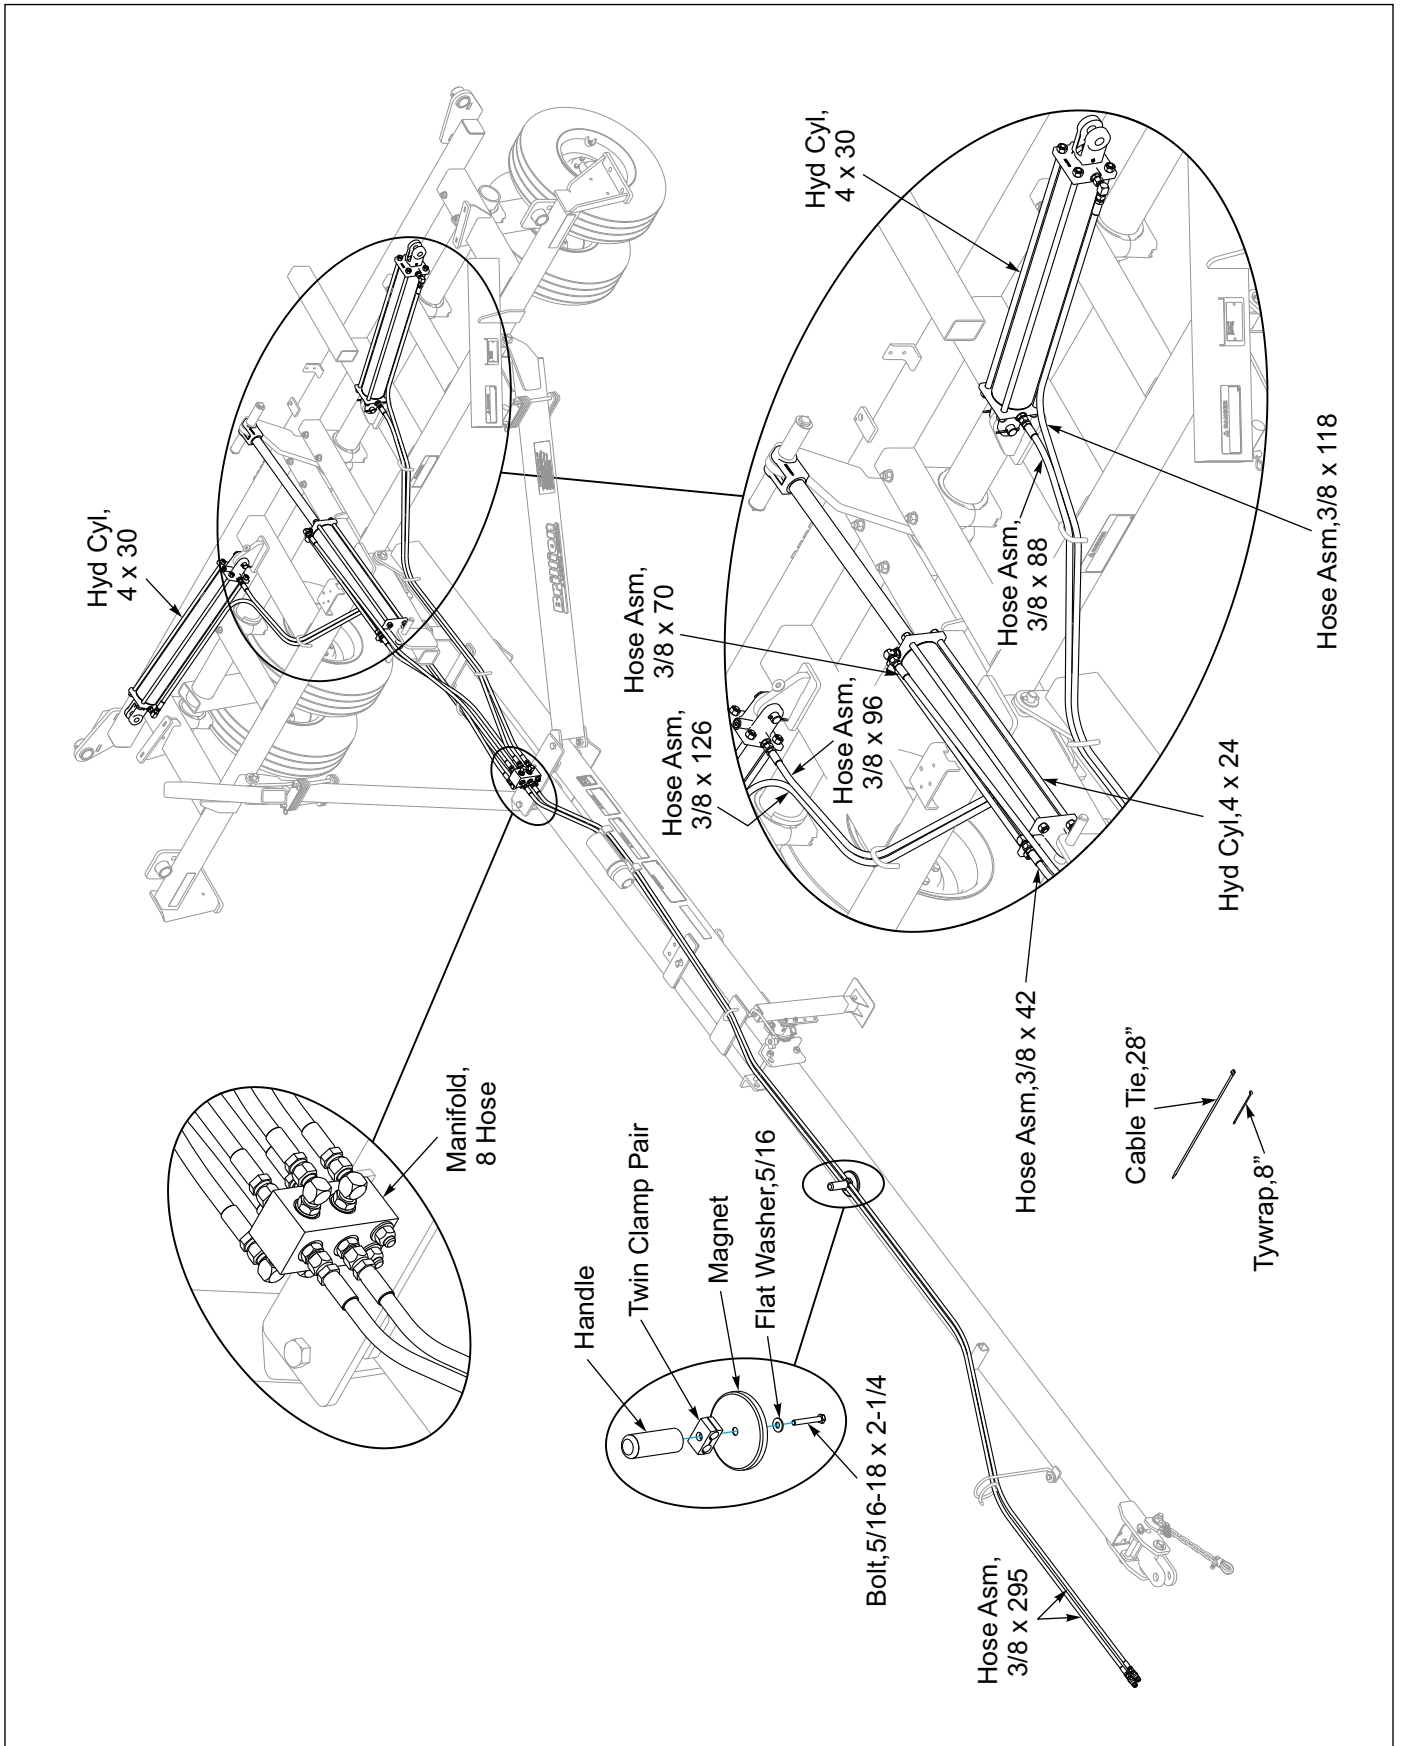

Figure 2-11: Hydraulic Layout
3. Attach hoses to the Fold Cylinders route the hoses through the loops to the manifold. Left Hand cylinder goes to the left side of manifold, right hand cylinder goes to the right side. Attach hoses from the lift cylinder to the rear of manifold. **See Figure 2-11.**